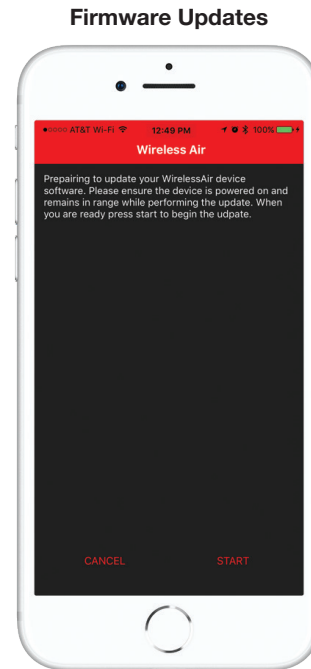

fig. D.6
2. The app must be connected to the manifold to change firmware on the manifold (Fig. D.6).